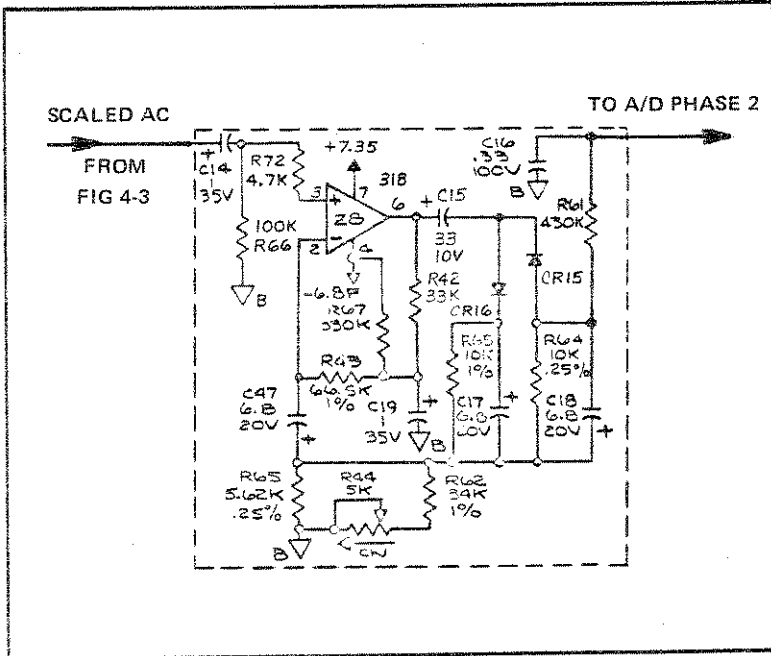

Fig. 4-4 Model 2480 AC/DC Average Sensing Conversion
- c. In Model 2480 DMM, the output of Z4 is capacitor-coupled (C14) to the averaging circuit. See Figure 4-4. The output of Z8 is half-wave rec-